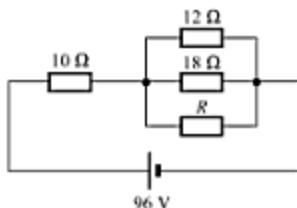

Fig. 2.40
14. Determine the value of resistance  $R$ , if the power dissipated in 10-ohm resistance is 360 W in the circuit of Fig. 2.40.